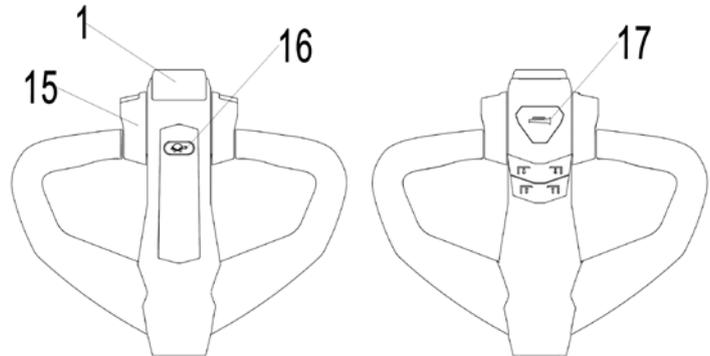

Fig. 8: Control handle
Press the horn button (Fig.8,17) to activate the audible warning signal.
Control the travel speed by turning the accelerator (Fig.8,15) carefully until the truck reaches your desired speed.
Press the turtle button (Fig.8,16) to enter into slow travel mode, travel slowly by turning the accelerator in the desired direction. Press the turtle button again to resume travelling at normal speed.
Press turtle button (Fig.8,16) and hold for 2 seconds to activate driving function with tiller in its vertical position when operating in confined areas. The driving function is active only when turtle button is pressed (the speed is reduced); the release of turtle button will cause immediate stop. The activation of accelerator button in time gap shorter than two seconds after the turtle button is pressed will not activate the driving function, the activation cycle has to be repeated from the beginning. Accelerator button should remain in neutral position till two seconds passed.
- By setting the accelerator (Fig. 8, 15) to the neutral "0" position or by releasing the accelerator, the regenerative brake is activated. The truck brakes to a halt.
- By turning the accelerator (Fig. 8, 15) in the opposite direction, the regenerative brake is activated. The truck brakes and begins traveling in the opposite direction.
- Operate the collision safety switch (belly button) (Fig. 8, 1) to protect the operator from being crushed. If this switch is activated, the truck brakes and travels a short distance in the opposite direction.